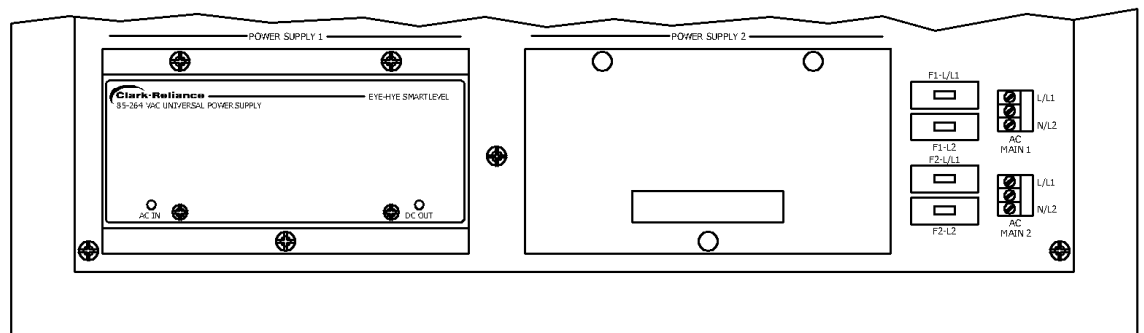

Figure 6 – Motherboard Power Supplies
The **Universal AC Power Supply** provides power from an AC Main supply source to power the system. A single supply is typically installed in slot J17. The supply is installed and secured by (3) 6-32 x ½ machine screws. An additional supply can be installed in slot J18 to be either used as a backup supply from a separate power source or a redundant, backup supply from a single AC source. See Figure 6.